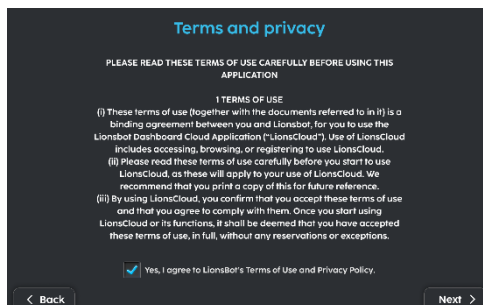

Fig. 3
3. Read and agree to the Terms of Use and Privacy Policy (Fig. 3).